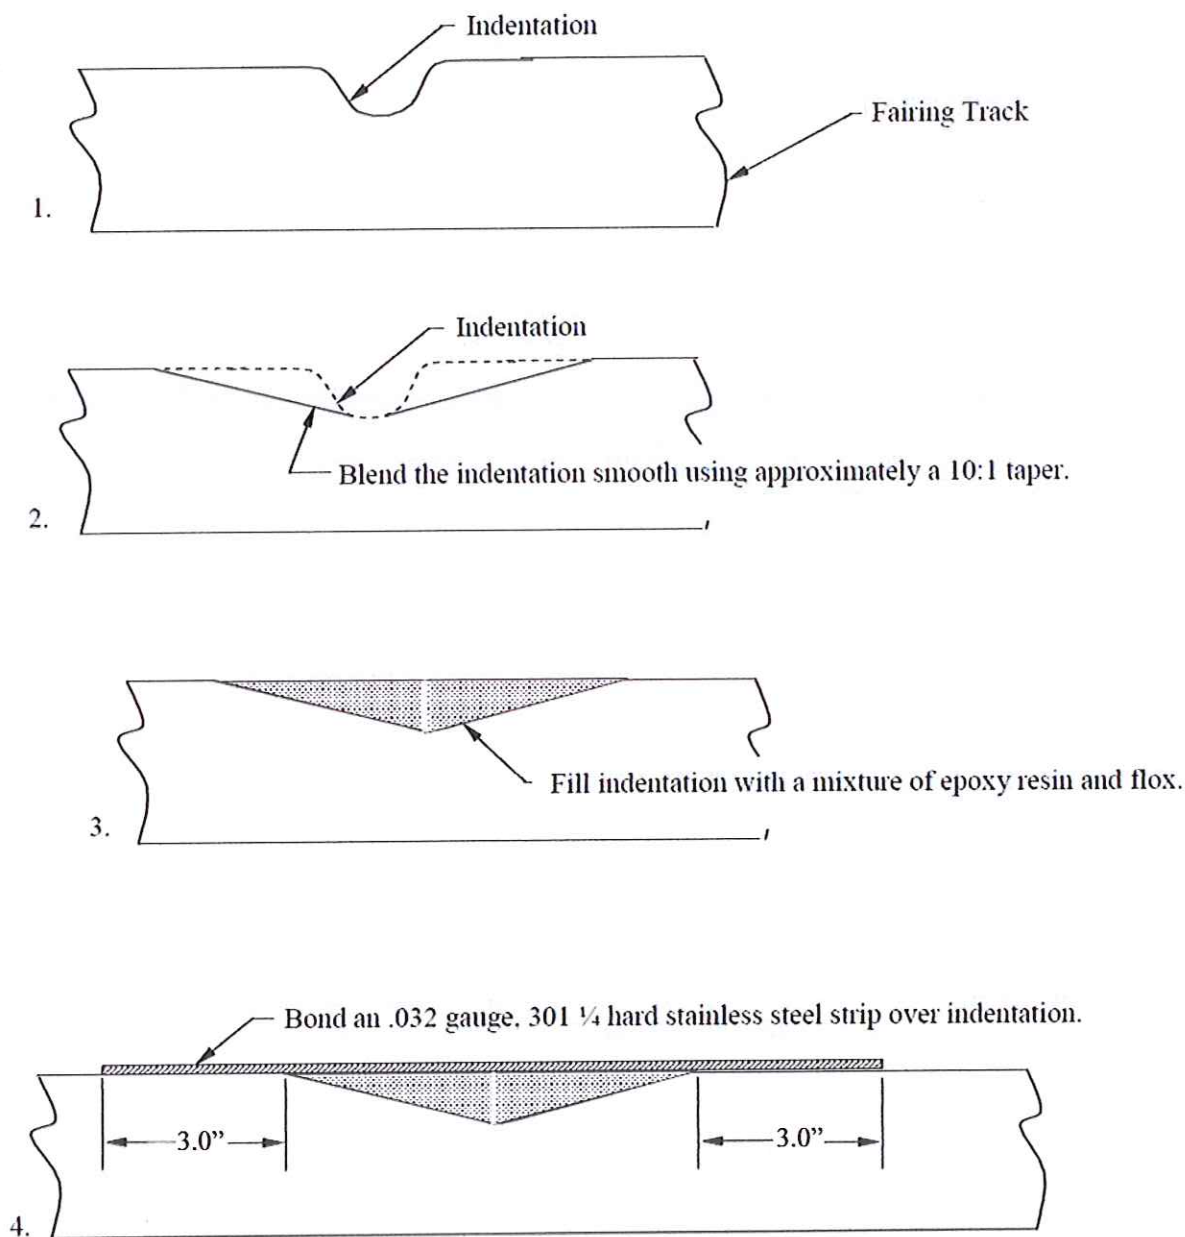

Figure 2 – Repair Blendout and Bonding Layout
9. Abrade the top surface of the track rail beyond the repair area approximately 3 inches on each side of the indentation as shown in Figure 2, and remove any corrosion. Use a scotch-brite abrasive mat, MIL-A-9962 and abrade down to the clean aluminum substrate underneath. Vacuum the area to remove any loose particles.
- a. Make from .032 thick, 301 ¼ hard stainless steel sheet approximately as shown in Figure 2.
- b. Extend the strip 3 inches beyond the indentation on each side as shown in Figure 2.